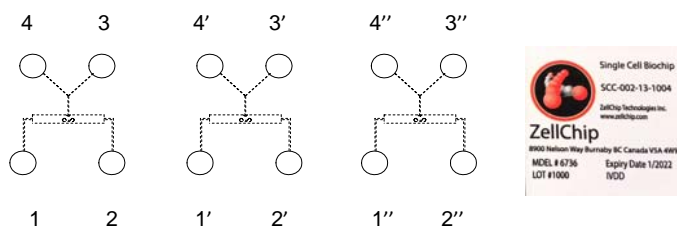

Fig.1 Single Cell Biochip orientation (triple units)
To use the Single Cell Biochip properly it must be used in correct orientation See Fig 1. The Company logo should be on the right side.
2. Put the Biochip on the bench so that the Chip Label faces up and is on the right side, see Fig 1. There are triple units each consisting of four reservoirs.